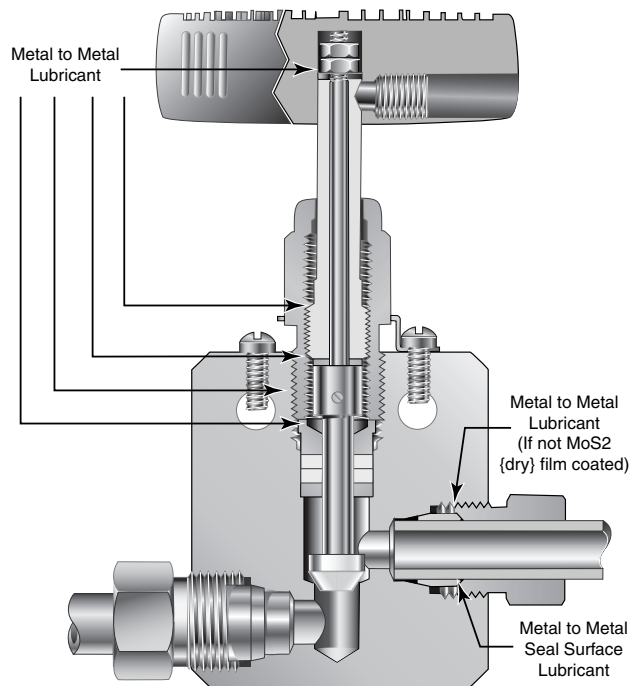

Figure 1
2. Hard Valves - Ideally, the non-rotating stem should be lubricated along the shank that fits into the threaded stem sleeve as well as on the surfaces that are in contact with the stem washers. The threaded stem sleeve should be lubricated on the stem threads and at the ends (see Figure 1). The packing gland should be lubricated on the external threads and on the end that is in contact with the packing washer. For valves with replacement seats, the external threads on the seat retainer and the portion of the seat retainer in contact with the seat should be lubricated.